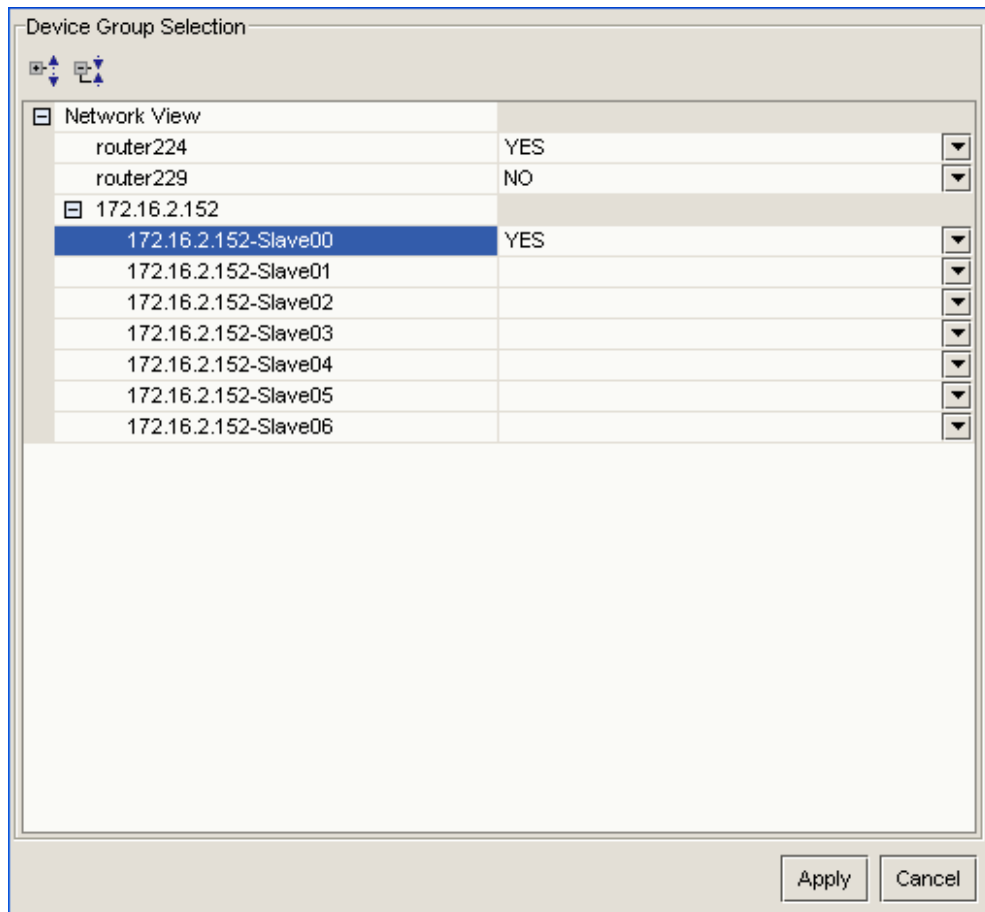

Figure 9-12. Device group selection dialog
Step1: After pushing the Deploy button, the system will display a dialog to choose devices as below Figure 9-12: the device will be deployed on the value set to “YES”.